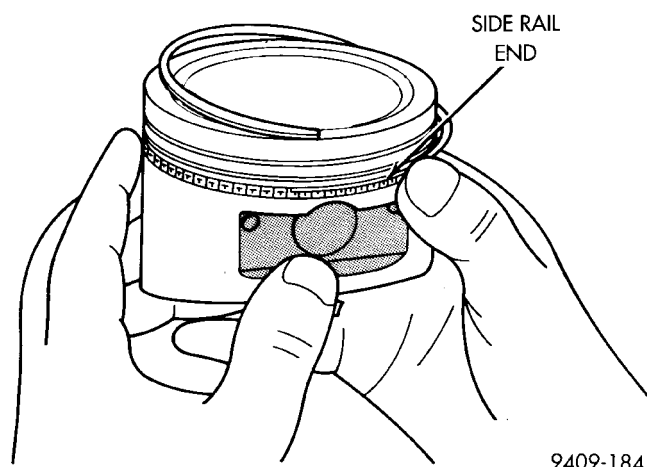

Fig. 82 Installing Side Rail
- f. Install the side rail by placing one end between the piston ring groove and the expander. Hold end firmly and press down the portion to be installed until side rail is in position. **Do not use a piston ring expander (Fig. 82).**